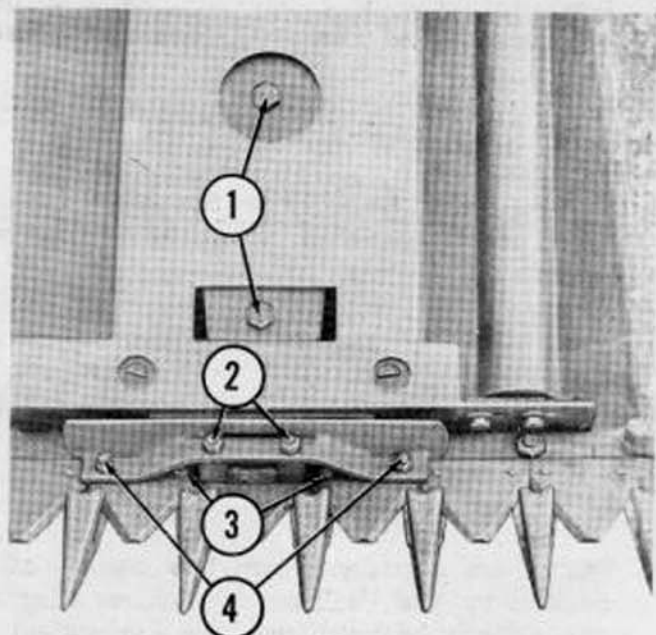

Figure 11
Sickle Replacement: To remove the sickle for service or repair purposes, remove the four countersunk Allen head screws and lock nuts (2) and (4), Figure 11, which hold the sickle head bracket and pivot blocks in place. Next, remove the two countersunk Allen head screws and lock nuts (3), and pull the sickle out of the cutter bar assembly. If the sickle is difficult to remove due to interference between the sickle section rivets and the wobble arm fork, it may be necessary to remove the right canvas and loosen the wobble arm fork attaching bolts (1).